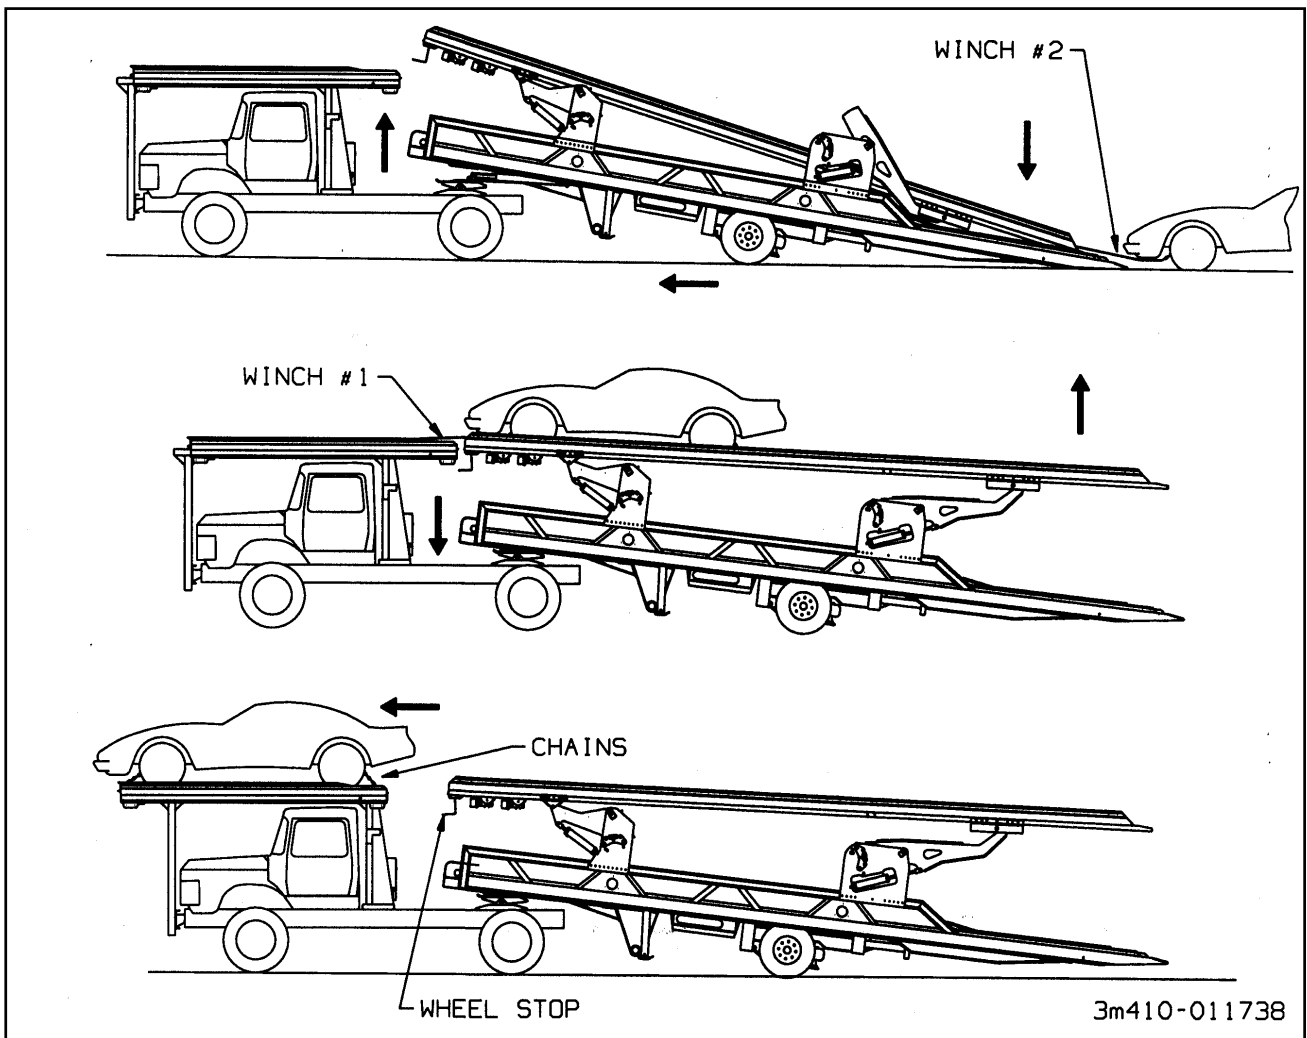

Figure 3-8 Loading the Over-the-Cab Deck
- 3-14.5** Unlock and lower the rear arm until the back edge of the upper deck touches the lower deck (See **Figure 3-8**).
- 3-14.6** Make sure the trailer axles are all the way forward. Tilt the trailer with the **TRAILER TILT CONTROL**, until the approach plate of the lower deck touches the ground (See **Figure 3-8**).